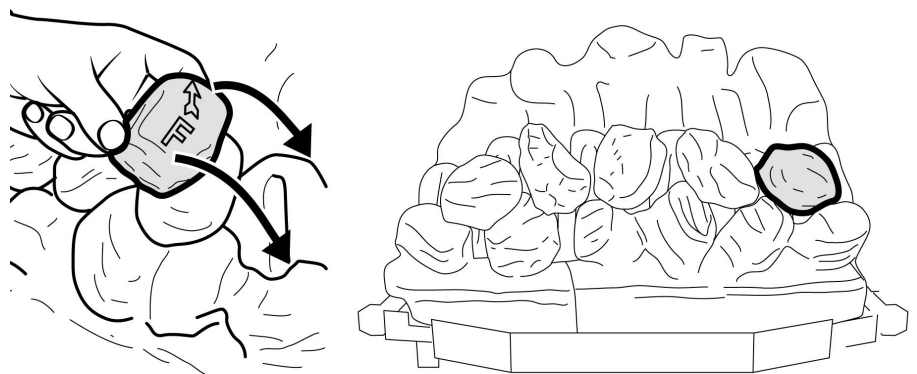

Figure 10. Second row "Coal F"
9. Hold coal 'F' upright with the arrow pointing to the top. Locate coal 'F' as shown in figure 10.